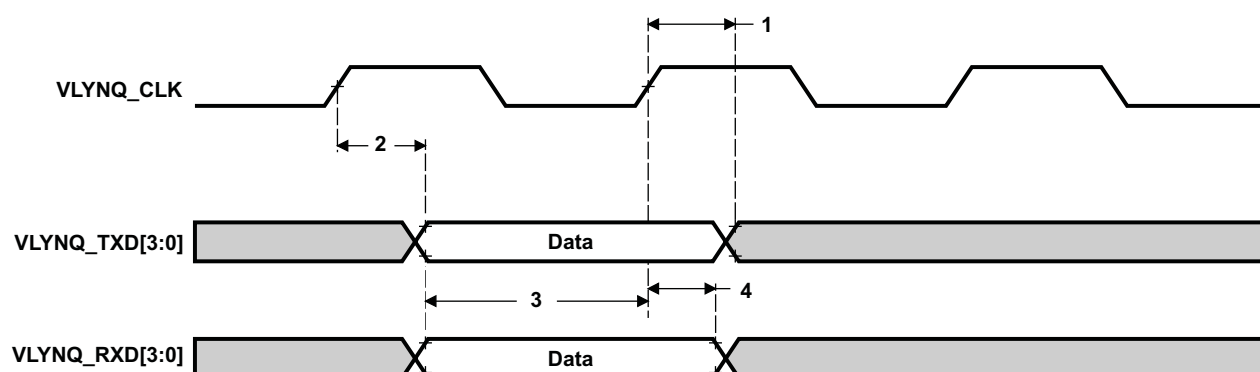

**Figure 6-49. VLYNQ Transmit/Receive Timing**
**Table 6-94. Switching Characteristics Over Recommended Operating Conditions for Transmit Data for the VLYNQ Module (see Figure 6-49)**
**Table 6-95. Timing Requirements for Receive Data for the VLYNQ Module(1) (see Figure 6-49)**